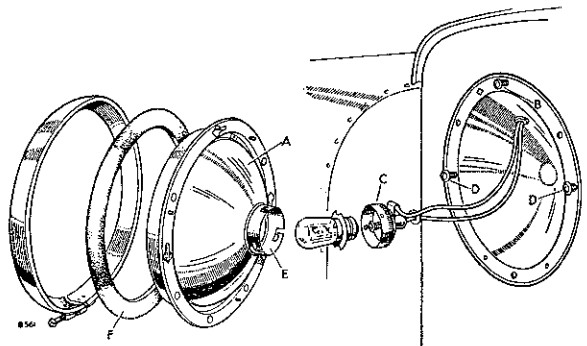

Fig. 45. Headlamp.
3. Adjust the beam by turning the screws indicated in Fig. 45 until the area of concentrated light corresponds with the marks on the beam setting board.